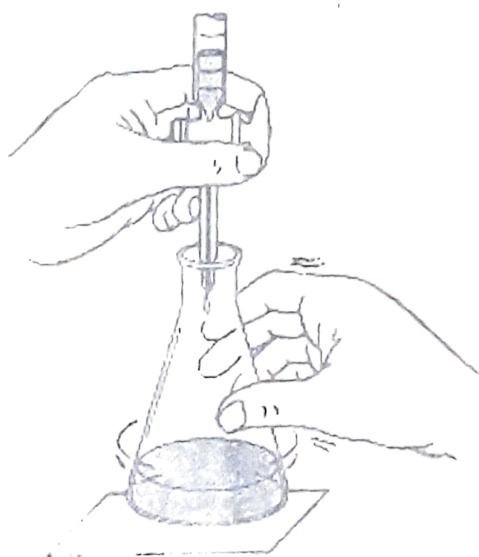

Figure 2 Positioning the buret for titration and manipulating the stopcock.
- Figure 2 indicates the best method to handle the stopcock.